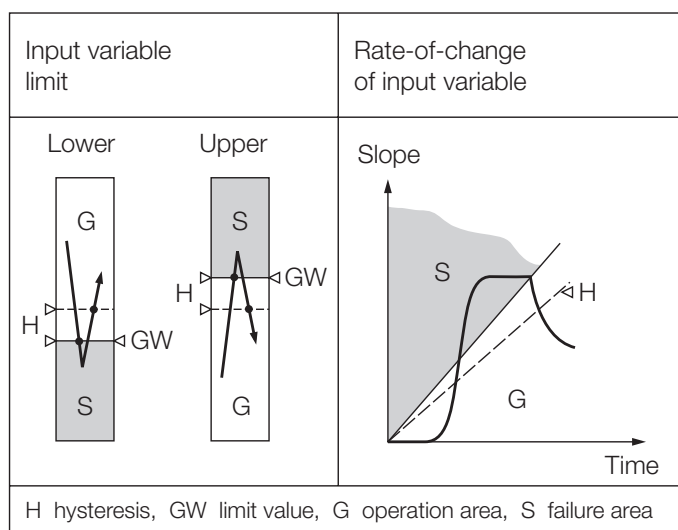

Fig. 5. Switching function according to limit monitored.
- Lower limit value of the measured variable (see Fig. 5, left)
- Upper limit value of the measured variable (see Fig. 5, left)
(see Fig. 5, right)